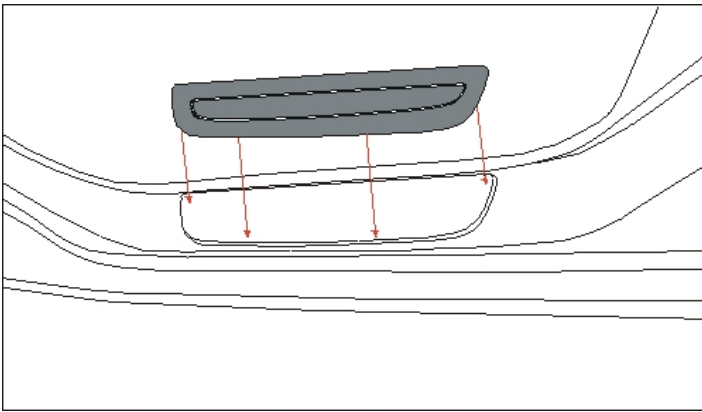

Fig. 3-1
- (c) Remove the tape liner from the door sill enhancement. Do not touch the adhesive. Align part uniformly to the outer edge of the factory sill area. (Fig. 3-1)